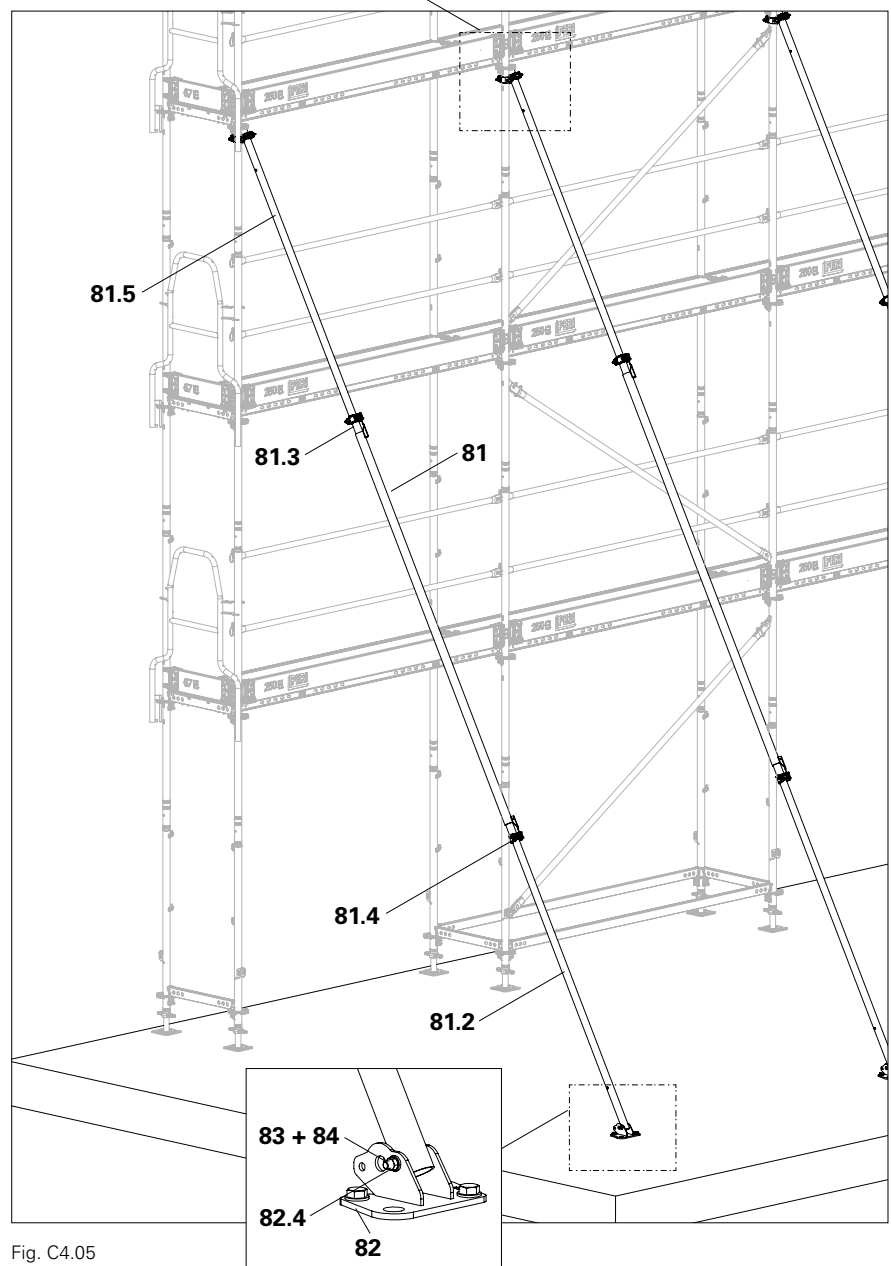

Fig. C4.05
- The multi brace is now installed (Fig. C4.05)